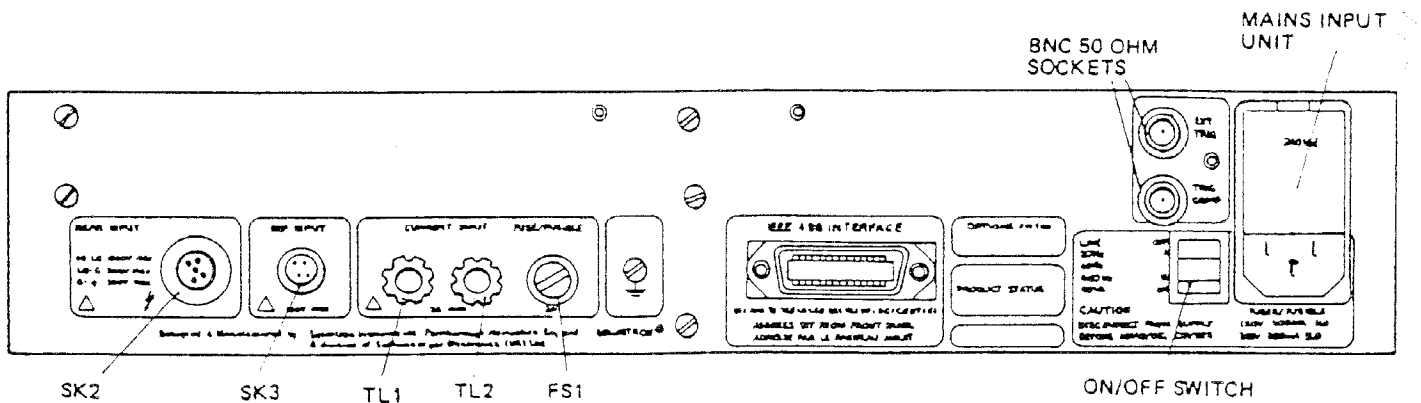

Fig 2.12 Rear Panel
6.8 REAR PANEL AND REAR PANEL COMPONENT REMOVAL (FIG 2.12)
To replace rear panel components the rear panel can be loosened from the chassis by removing seven screws as indicated on Fig 2.12. For most tasks it is not necessary to remove the rear panel; removal of the seven screws allows the rear panel to be tilted away from the chassis and this eases access to the rear panel components.
1. Remove the seven screws as indicated on Fig 2.12.